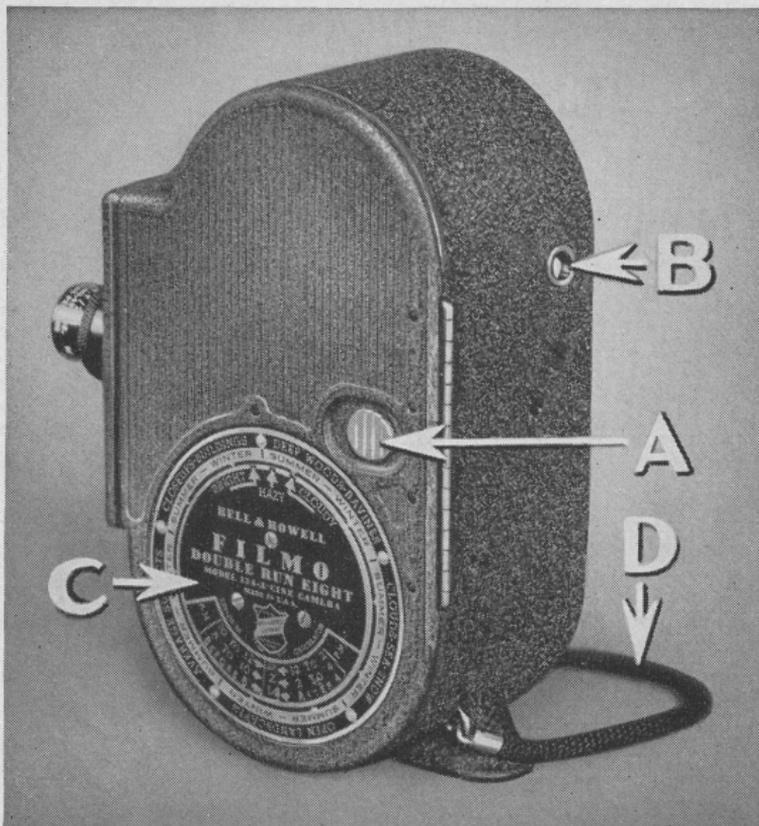

Figure 1
The first step in learning to make movies with the Filmo Double 8 Camera is to familiarize yourself thoroughly with the camera, and especially with the controls and other parts pointed out in Figures 1 and 2 and explained in the accompanying paragraphs. Careful study of this material will make it very easy for you to follow the instructions, and thus bring you most quickly to the point of being ready to take pictures.
1. Press back on the door lock A, Figure 1, and open the camera door. Lift out the take-up spool. Brush it clean, inside and out, with the brush supplied.
2. Pressing back on the door lock A, Figure 1, open the camera door. Remove the take-up spool from the camera.